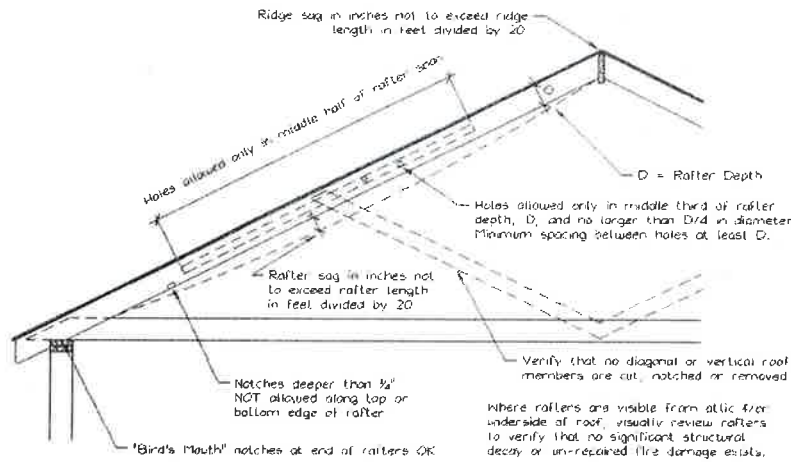

Figure 1. Sample Solar Panel Array and Anchor Layout Diagram (Roof Plan)
- 2) Does the roof structure appear structurally sound, without signs of alterations or significant structural deterioration or sagging, as illustrated in Figure 1 YES NO